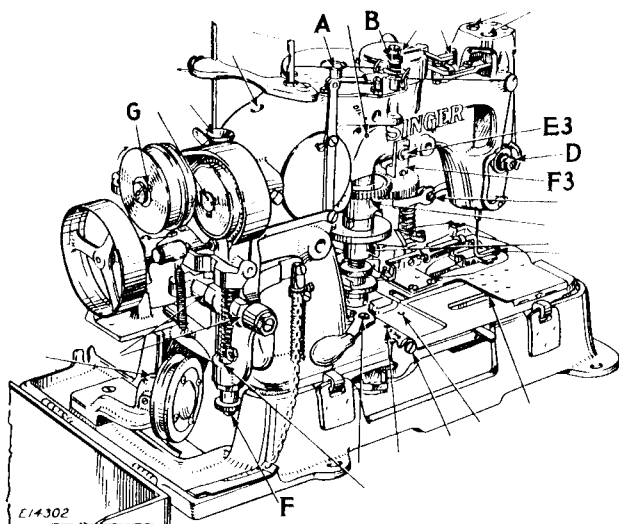
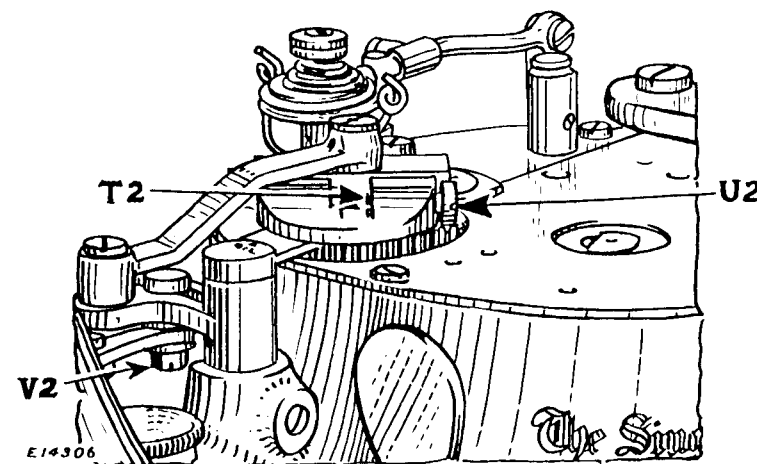

Fig. 6. Oiling Points at the Left of the Machine
Fig. 17. Adjustments on the Machine
Occasionally remove the screw (G, Fig. 6) from the loose pulley and apply a small quantity of Singer Ball Bearing Lubricant to the ball bearing of the pulley through the tapped hole, then replace the screw (G).
The machine has two thumb nuts (B and D, Fig. 6) for regulating the tension on the needle thread. This tension should be equal to the tension on the bobbin thread.
The width of bight is regulated by loosening the nut (V2, Fig. 17) and moving the stud in the slotted link at the top of the
To further increase the width of bight up to 1/4 inch, loosen screw (U2, Fig. 17) and loosen the needle vibrating controlling block screw (E3, Fig. 6) and raise the block (F3, Fig. 6). When the desired width of bight is obtained, securely tighten the screw (E3), turn screw (U2, Fig. 17) against the slide and secure it in position by tightening set screw (T2, Fig. 17).